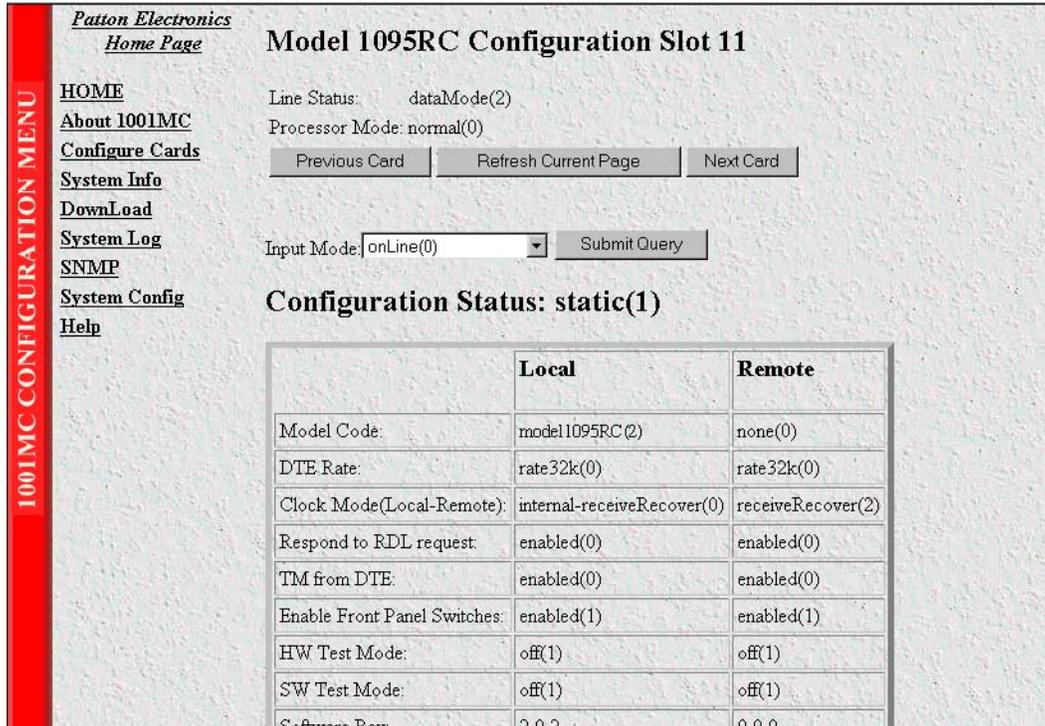
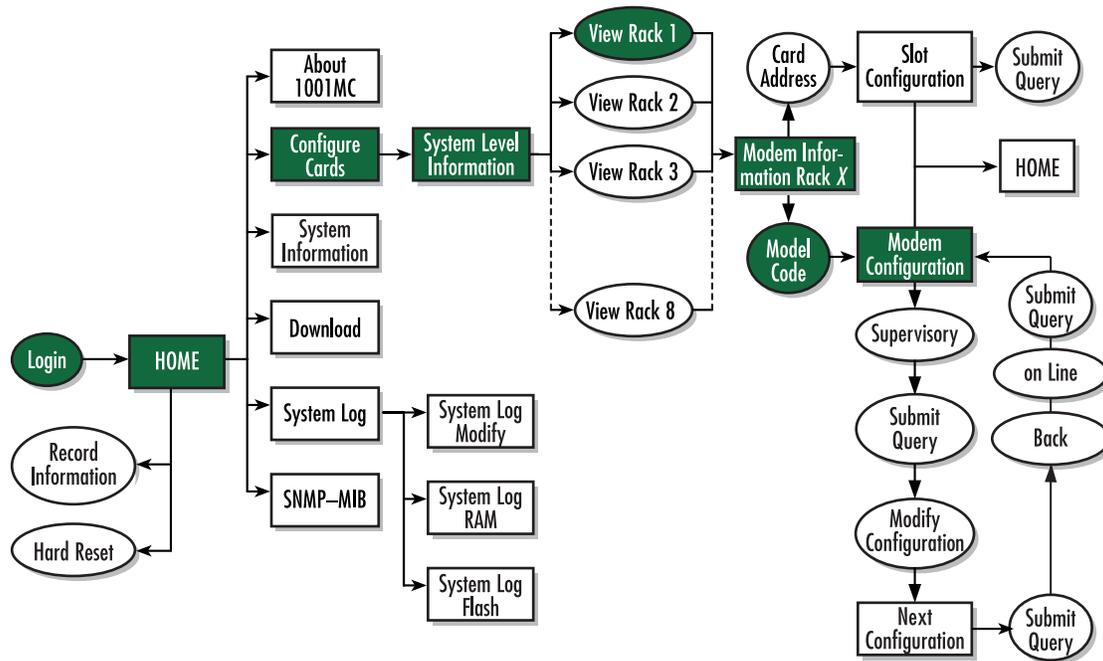

Figure 44. Model 1095 Configuration Slot page
Figure 45. Web page navigation to Model 1095 Configuration Slot page
The Model 1095 Configuration Slot page (see figure 44) enables you to make configuration changes to the Model 1095RC and the remote CPE box. When the page displays, the unit is set to the *onLine* state and the current configuration is displayed.
Starting from the HOME page, to access the Model 1095 Configuration Slot page for the 1095RC, click on the following links: *Configure Cards > View Rack 1 > Local_Model_Code* for the 1095RC you wish to manage (in the example shown in figure 44, the 1095RC was installed in slot 11). Figure 45 on page 96 shows the web page navigation required to get to this area of the system.
1. With the Model 1095 Configuration Slot page displayed, change the Input Mode (see figure 44) to superVisoryMode. The Modify Configuration hyperlink will appear.